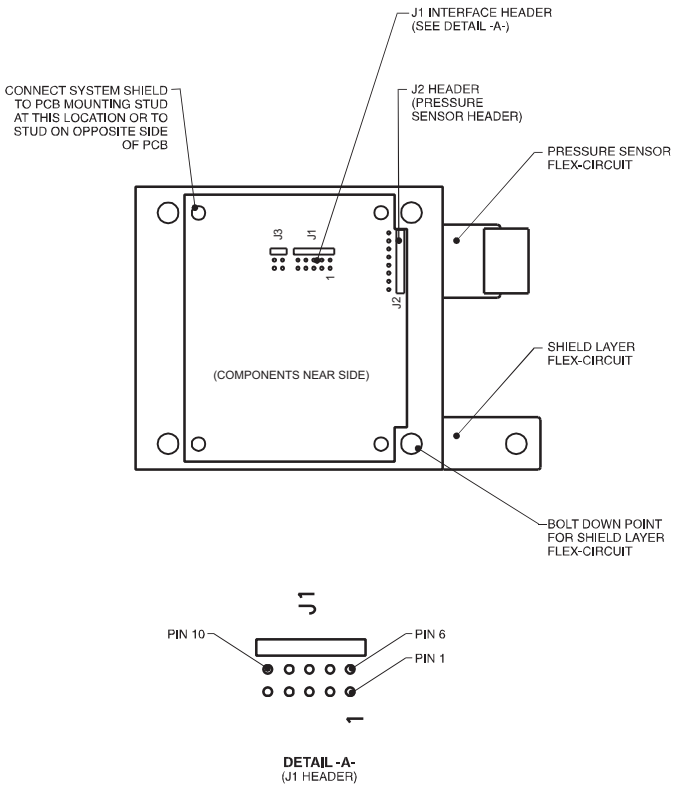

Figure 7.08
To panel mount the DOM without sealing, all that is needed is a panel designed with the necessary cut-outs for the faceplate/mouse and click buttons and four or more fasteners (e.g., PEM studs, edge clips, hole clips, heat stakes, etc.). No other live electric parts may be within a half inch (0.500”) of the components inside of the DuraPoint. DuraPoint must be installed into a suitable enclosure. When installing the DOM, the mounting fasteners should be tightened evenly to allow proper seating. Over torque on the bolts should be avoided, as this could damage the DOM. With proper seating and tightening, a liquid-and-particulate resistant interface can be created. The DOM should be grounded through either of the two upper PCB mounting studs as shown in Figure 7.08. When mounting the DOM without a faceplate, the flexible shielding layer circuit should be connected to the support plate. Simply wrap the circuit over the mounting hole nearest the circuit, run a fastener through the mounting hole, and tighten the fastener down. Figure 7.08 details the location of the shielding circuit.
The following table shows the pin-out for RS232C serial-data connections to the J1 interface header. The J1 header is the 10-pin, double-row 0.1” center header on the back of the DOM's circuit board. Also shown are the connections for standard 9-pin and 25-pin DB-style serial connectors. Five lines are needed for an RS232C serial interface. See Figure 7.08 for details on the J1 pin-out convention.
** See Figure 7.08 for details on connecting the cable shield
The following table shows the pin-out of the J1 header that corresponds to a PS/2 mouse-port connection. Also shown are the connections for a standard 6-pin mini-DIN PS/2 mouse-port connector. Four lines are needed for a PS/2 interface. See Figure 7.08 for details on the J1 pinout convention.